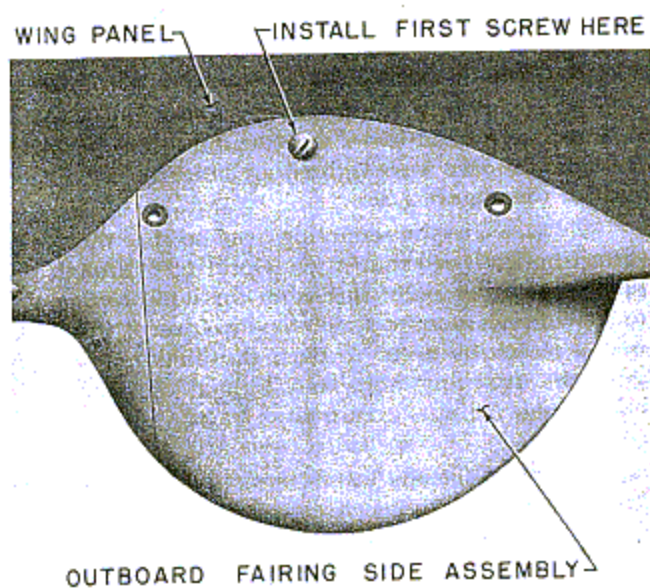
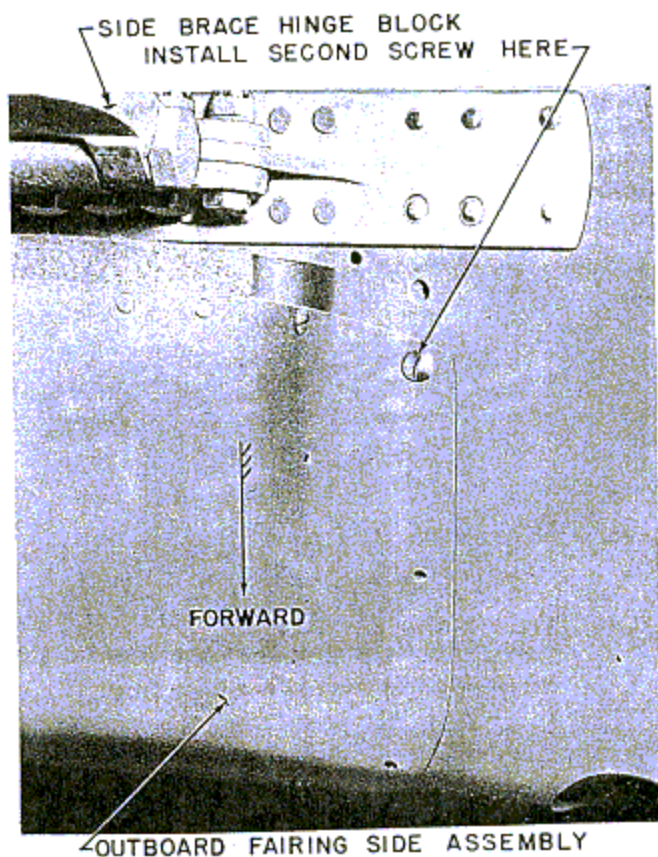

Figure 127—Installation of Landing Gear Fairing—
Figure 128—Installation of Landing Gear Fairing—
a. Lift the outboard fairing side assembly in place and install the first screw as shown in figure 127. Install the second and third screws as shown on figures 128 and 129. Enlarge remaining holes in the fairing, if necessary, to line-up with nutplates in the panel, and secure as indicated in figure 130.